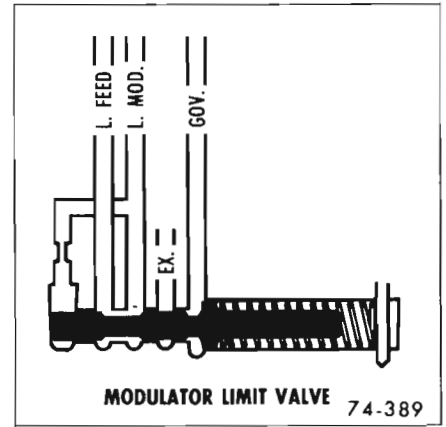

Figure 74-18—Modulator Limit Valve
**i. Modulator Limit Valve (See Figure 74-18)**